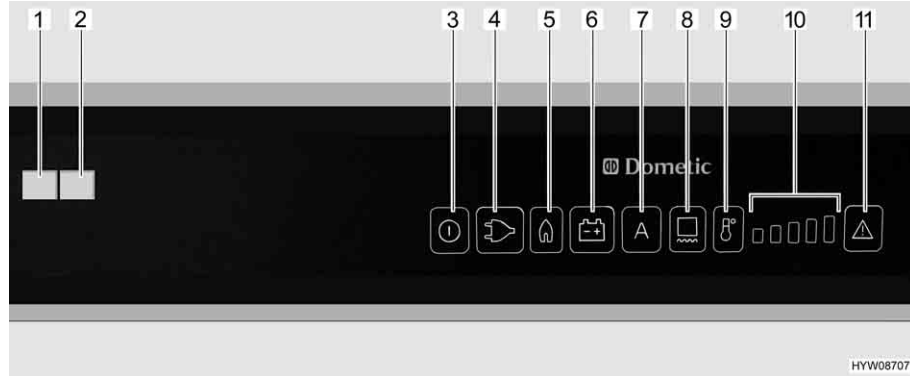

Fig. 177 Operating controls for the refrigerator (Dometic RMD)
If the "AES" operating mode is set, the 230 V supply is **not** connected and the vehicle engine is **switched off**, the AES selects the gas supply. When selecting gas operation the ignition fuse is opened automatically so gas can get into the burner. At the same time the electronic ignition is activated. If the gas flame is extinguished, e.g. by blast of wind, the ignition is activated immediately and re-ignites the gas. If there is a fault in gas operation, the illuminated buttons "Gas" (Fig. 177,5) and "Fault" (Fig. 177,11) flash. The "Fault" indicator lamp (Fig. 177,1) lights up and an alarm sounds for 20 seconds.
When turned on the first time the refrigerator automatically selects the middle thermostat position. This position can be adjusted manually using the temperature range selection button (Fig. 177,9). The indicator lamps (Fig. 177,10) show the selected thermostat position. The refrigerating temperature for all three types of energy is set with the temperature range selection button. It takes a few hours till the refrigerator reaches its normal operating temperature. When changing over the operating mode the thermostat setting will be maintained. The refrigerating temperature is retained regardless of the type of energy being used.
- Switch on the frame heater for a 2 hour period: Push button (Fig. 177,8) once. One bar is lit up on the temperature range display (Fig. 177,10).
- Switch on the frame heater for a 5 hour period: Push button (Fig. 177,8) twice. Two bars are lit up on the temperature range display (Fig. 177,10).
- Setting frame heater for continuous operation: Push button (Fig. 177,8) three times. Three bars are lit up on the temperature range display (Fig. 177,10).
The temperature range display (Fig. 177,10) shows the operating time of the frame heater for several seconds.
High external temperatures and high humidity can cause drops of water to form on the metal frame of the freezer compartment. This is why the refrigerator is equipped with a frame heater for the freezer compartment. If the temperature and humidity are high, switch on the frame heater by pressing the button (Fig. 177,8). This prevents corrosion. If the frame heater is switched on, the illuminated button (Fig. 177,8) is lit.
- Press and hold the On/Off button (Fig. 177,3) for about 2 seconds. The refrigerator switches on and the previously set type of energy or "AES" is displayed.
- Use the temperature range selection button (Fig. 177,9) to set the refrigerating temperature. The indicator lamps (Fig. 177,10) show the selected thermostat position.
- Press and hold the On/Off button (Fig. 177,3) for about 2 seconds. The refrigerator switches off and no displays are lit.